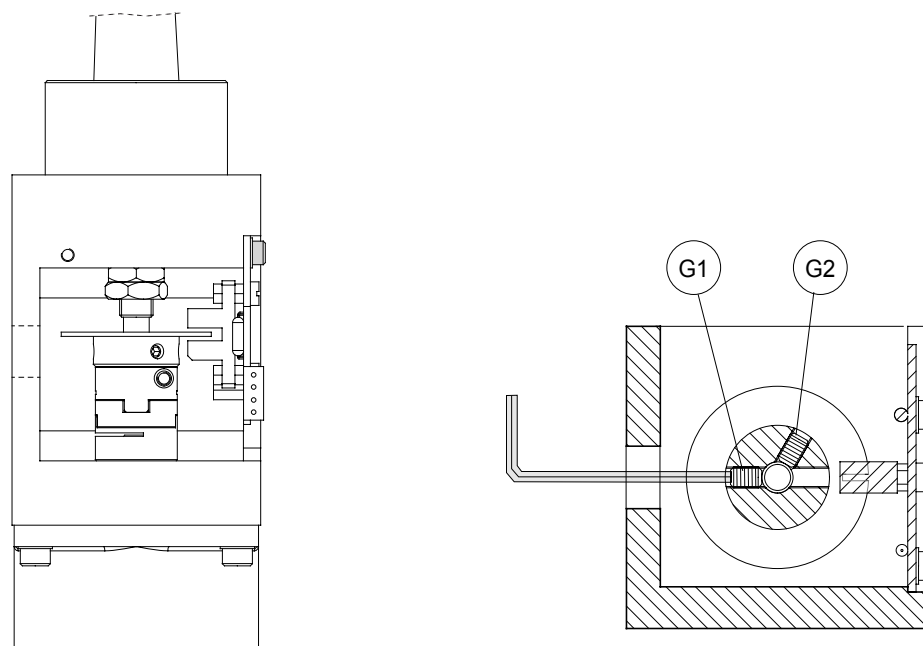

Fig. 32
- 3) loosen the (G1) and (G2) grub screws that secure the X axis photocell disk (fig. 32).
- manually turn the X axis disk (fig. 32, pag.39) up until the display's description changes from OFF to ON.
- use the provided allen key to tighten the (G1) grub screw (fig. 32, pag.39).
- 14) manually turn the X axis disk to get access to the (G2) grub screw (fig. 32, pag.39).